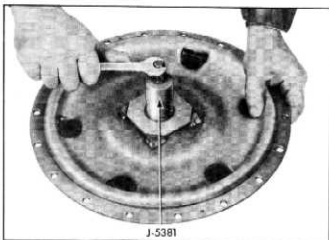

Fig. 176—Removing Converter Cover Bushing
1. Insert converter cover bushing remover, tool J-5381, in bore of bushing and turn puller screw clockwise (fig. 176).